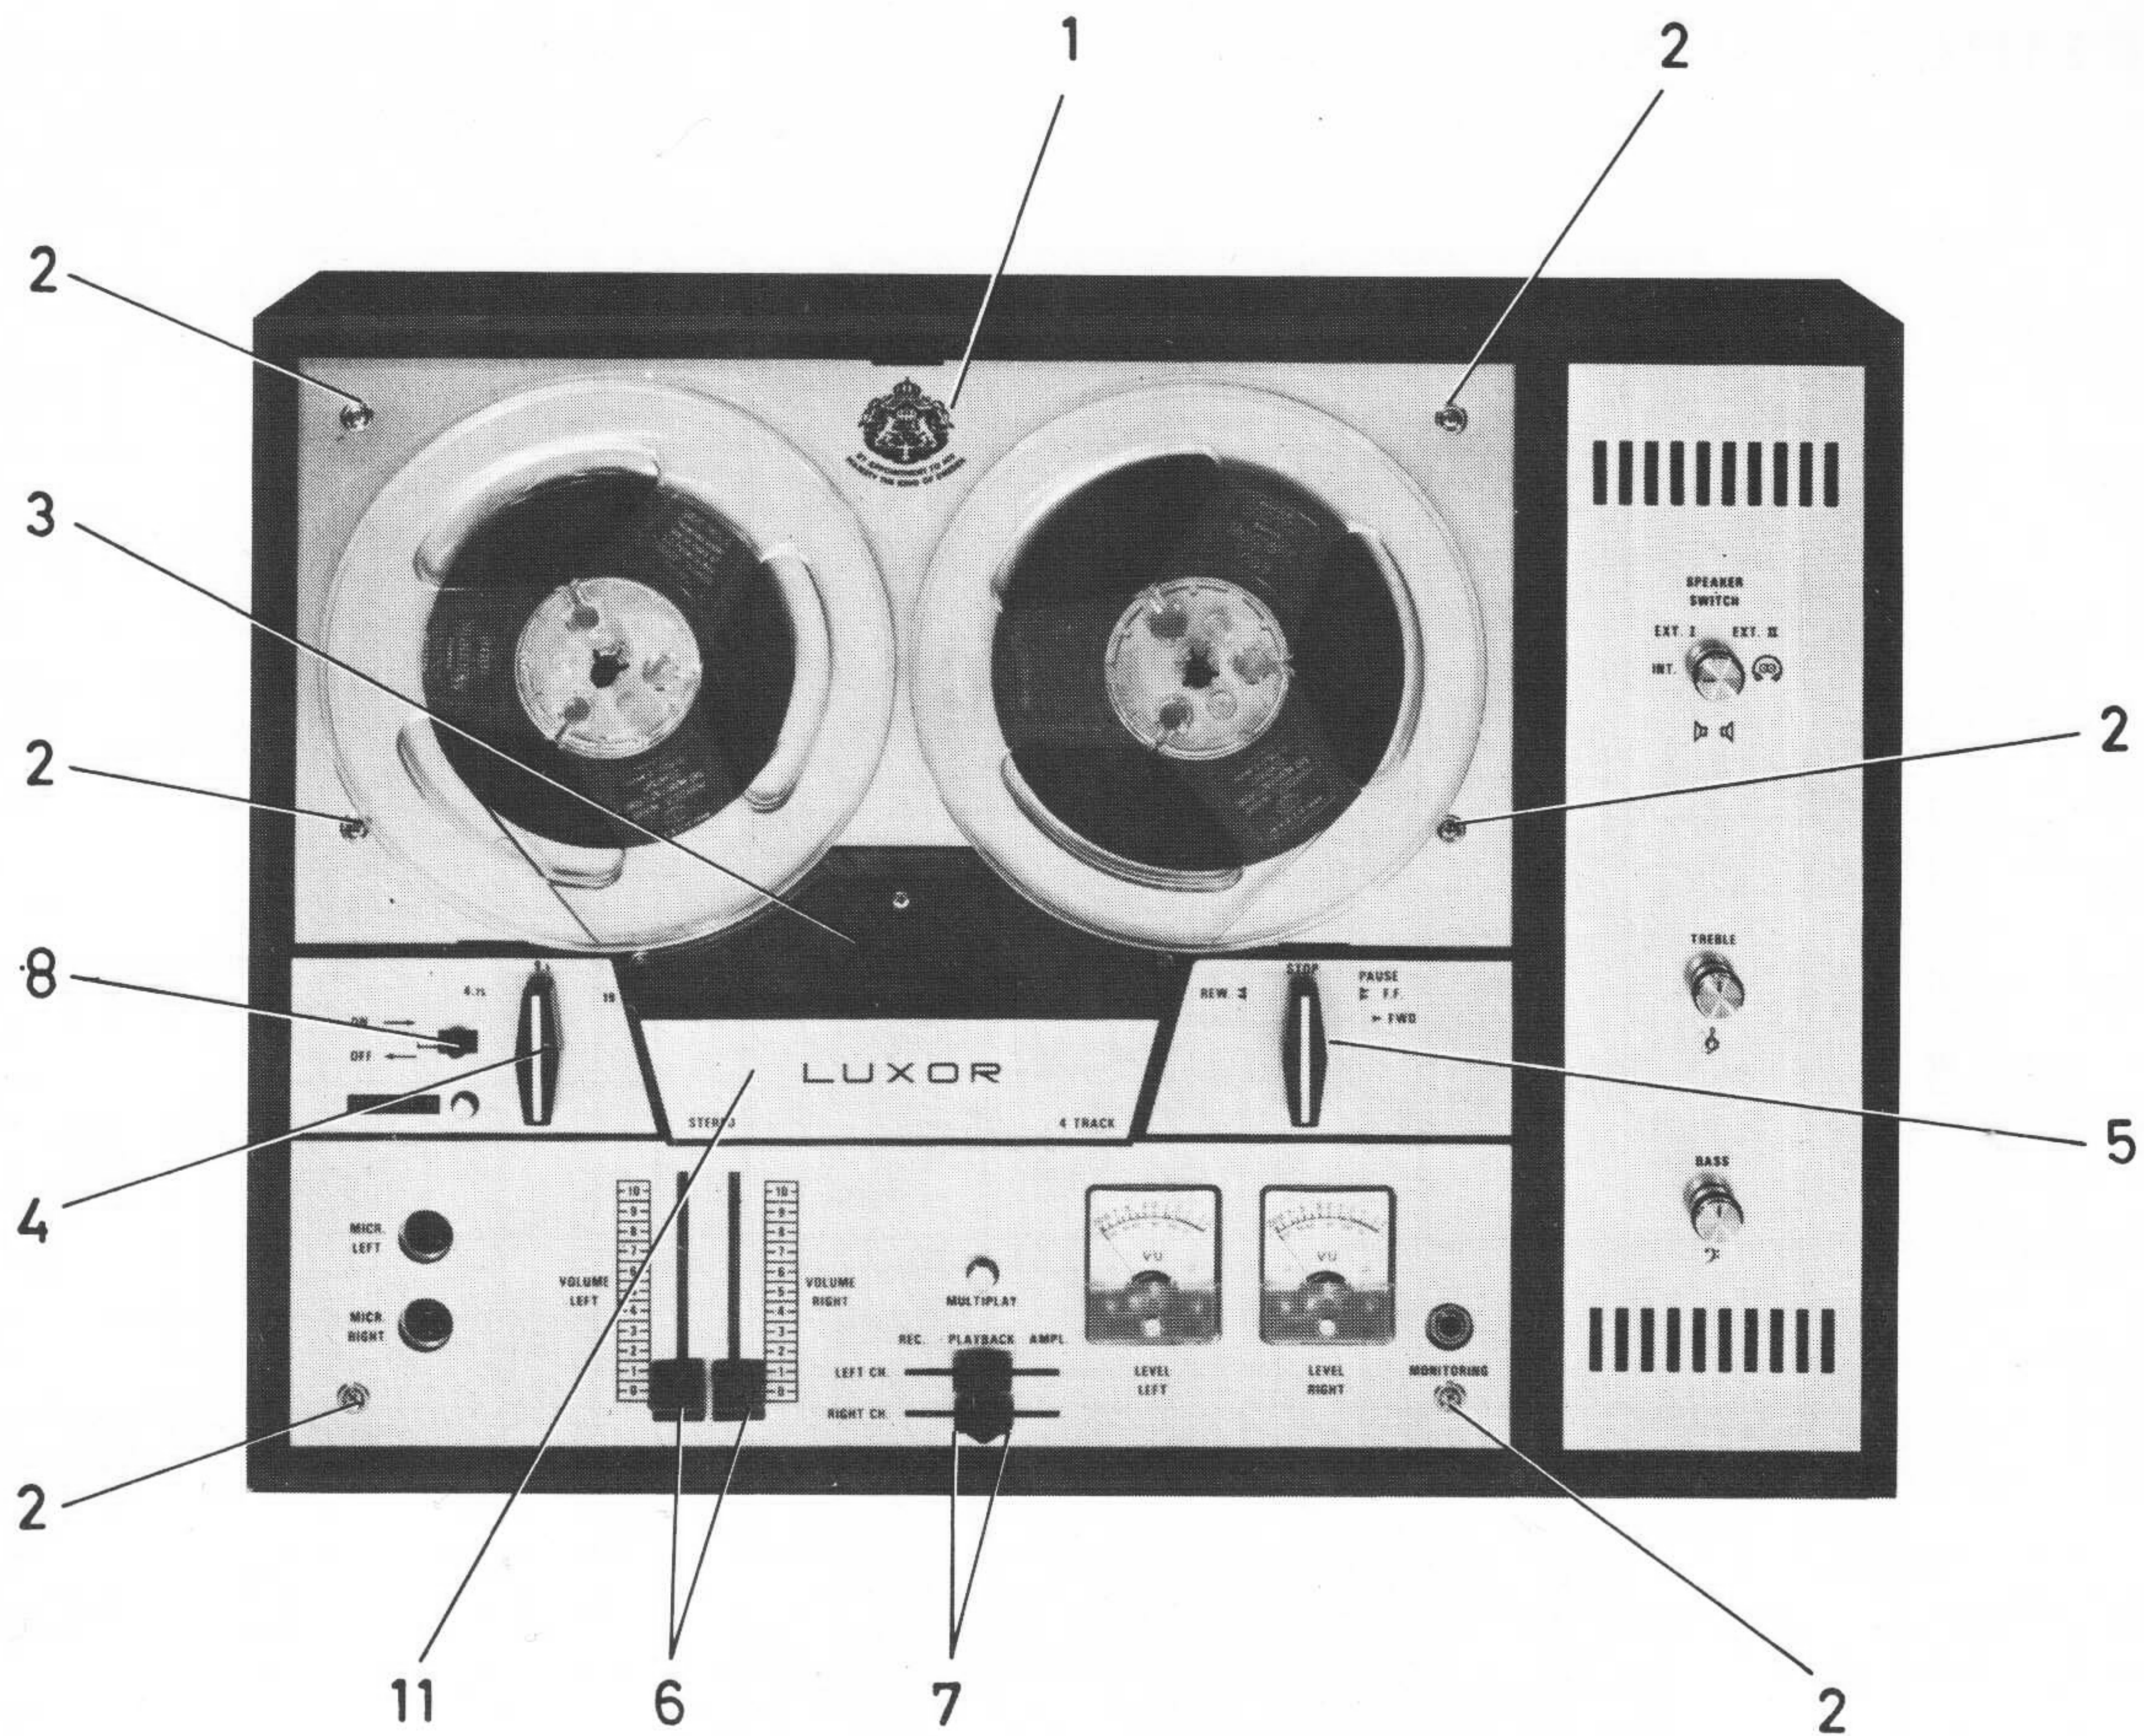

Fig. 1
BORTTAG DE SEX SKRUVARNA (2) FIG 1 OCH SKRUVEN PÅ BAKRE MASKEN (3), SOM DÄREFTER DRAS UT. TAG BORT VREDEN (4) OCH (5) GENOM ATT LOSSA DERAS FÄSTSKRUVAR, MAN VAR FÖRSIKTIG DÅ VREDET (5) BORTTAGES SÅ ATT FJÄDERN UNDER VREDET EJ FALLER BORT. DRAG BORT ALLA MANÖVERKNAPPAR (6) OCH (7) FÖR VOLYMREGLAGE OCH FUNKTIONSVÄLJARE.